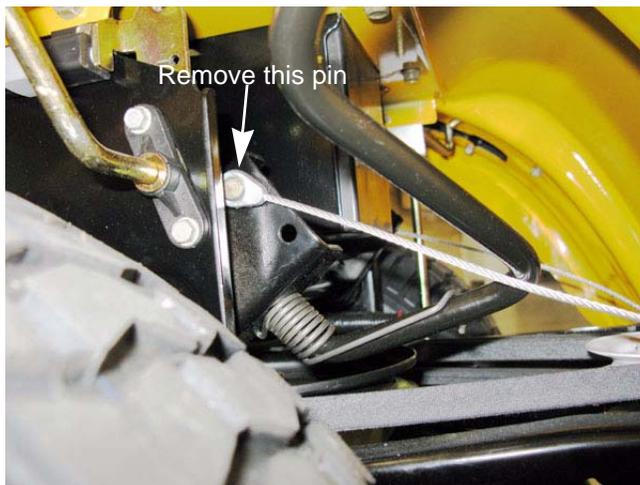

Figure 8.41
5. Remove the hair pin clip that secures the lift cable to the lift shaft then slide the clevis pin out of the cable. See Figure 8.41.